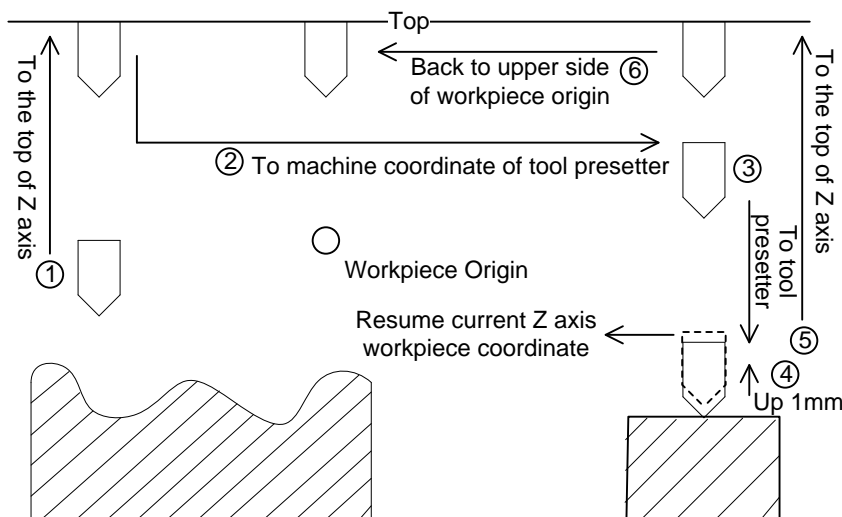

Fig. 3-21 Calibration after tool change
- After tool change or tool break, press F5 [Preset], and then press F2 [After Tool Change] in the new pop-up manipulation button bar to restore the Z workpiece coordinate value of current point, as shown in Fig. 3-21. The system ends this process automatically.